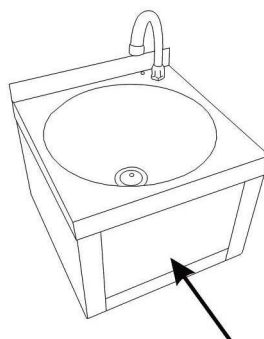

Fig. 3
- The basin is activated by pressing the plate at the front with one's knee (fig. 3).